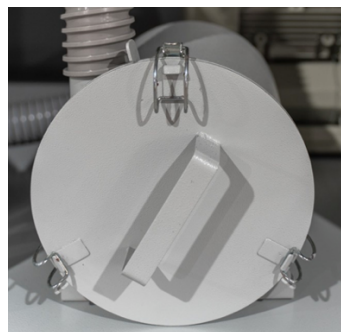

Figure 11-1
3. Release the three clips on the filter cover and remove the cover (see Figure 11-1).